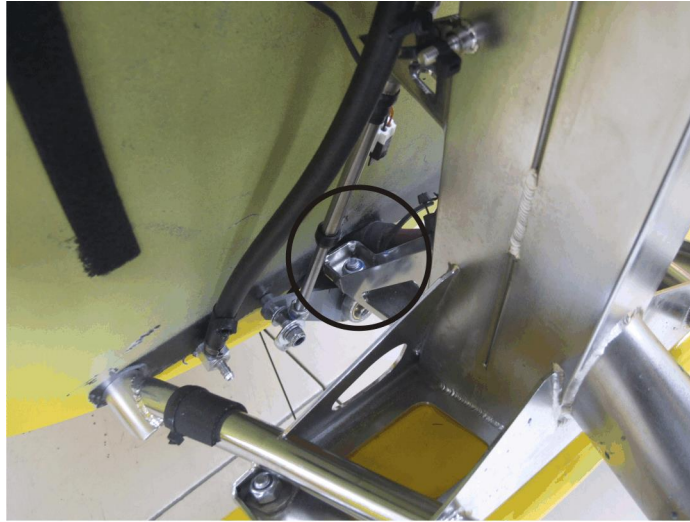

Fig. 1 - Inspection of base control unit attachment
- 2 Check presence of the two drain holes (see circles Fig. 1) and re-work, if required. Use a 6 mm drill.